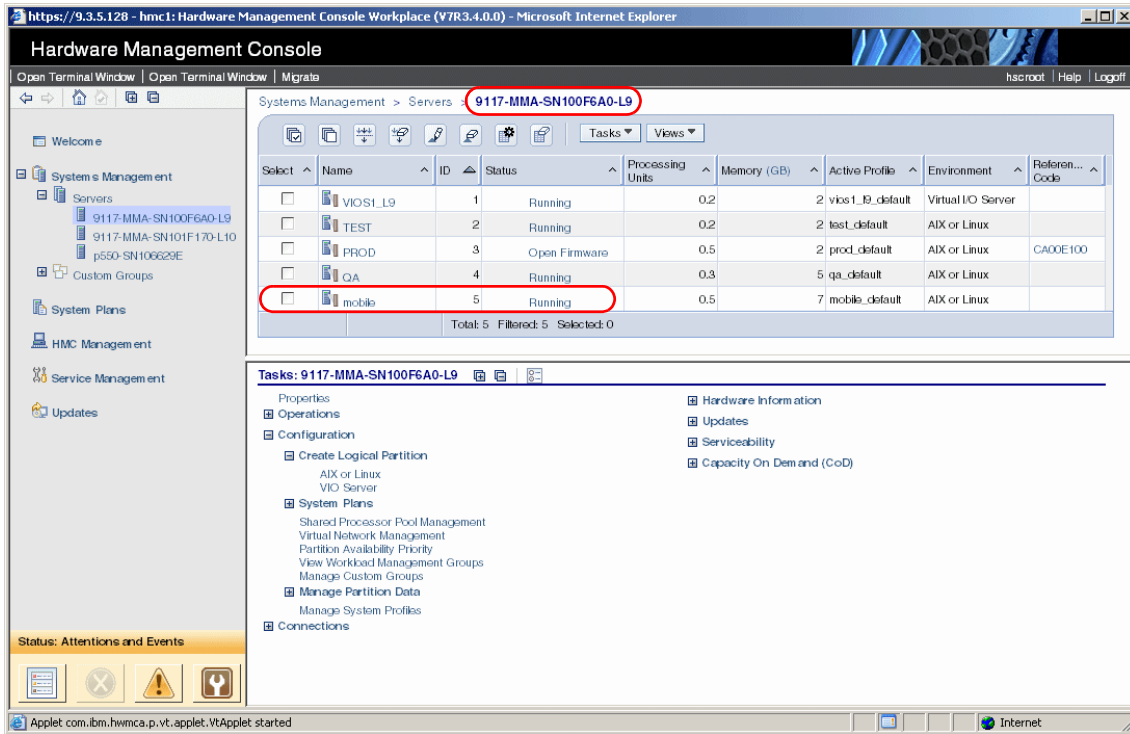

Figure 14-21 Migrated partition
16. When the Partition Migration Status window indicates that the migration is 100% complete, verify that the mobile partition is in the Running state on the destination system. The mobile partition is on the destination system, as shown in Figure 14-21.